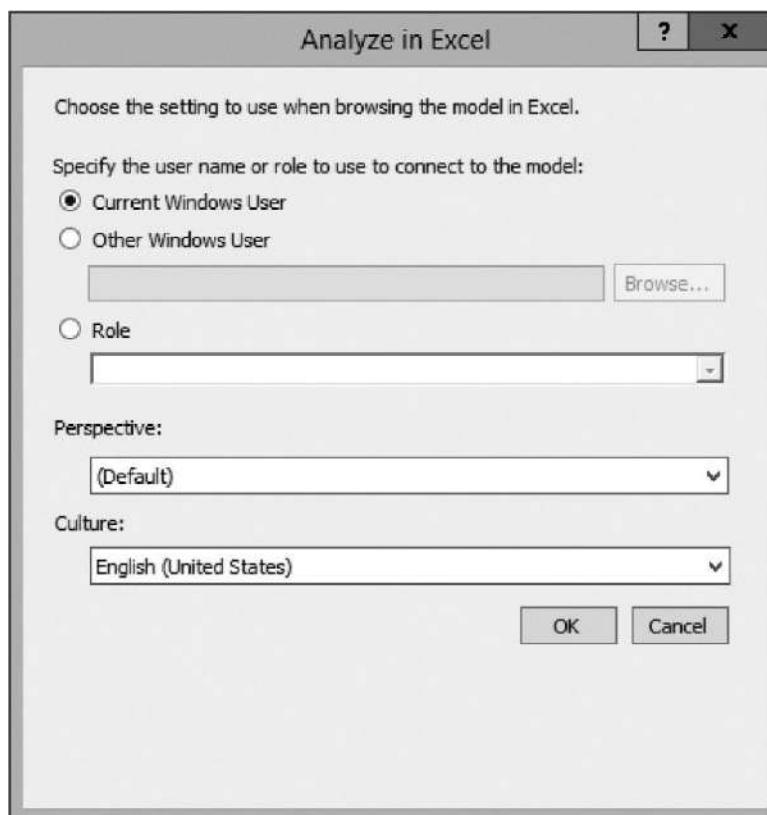

Figure 9-22 The Analyze in Excel dialog box
1. Click the Analyze in Excel button in the toolbar (the green Excel icon). The Analyze in Excel dialog box appears, as shown in Figure 9-22.